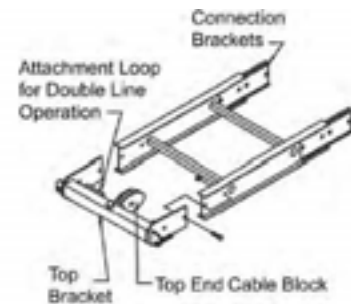

Figure 2
- b. Attach the top end bracket to the top section of the assembled ladder. The Top Bracket can be bolted to the top of the ladder section See Figure 2